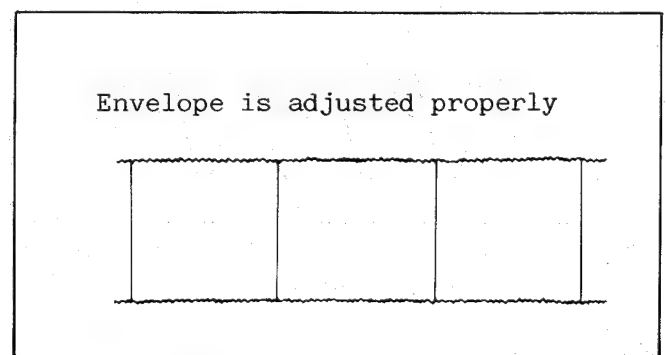

Fig. M31-4 Envelope Figure
3. When the scope display is as follows, adjust the height of P2 so that the waveform looks like Fig. M31-4.
4. When the scope display is as follows, adjust the height of P3 so that the waveform looks like Fig. M31-4.